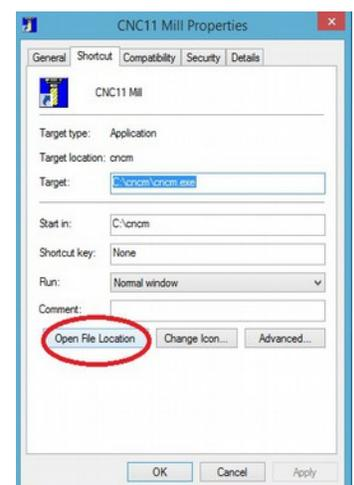

Figure 3.3.4
5. In the shortcut tab, click on “**Open File Location**” as shown in Figure 3.3.4.